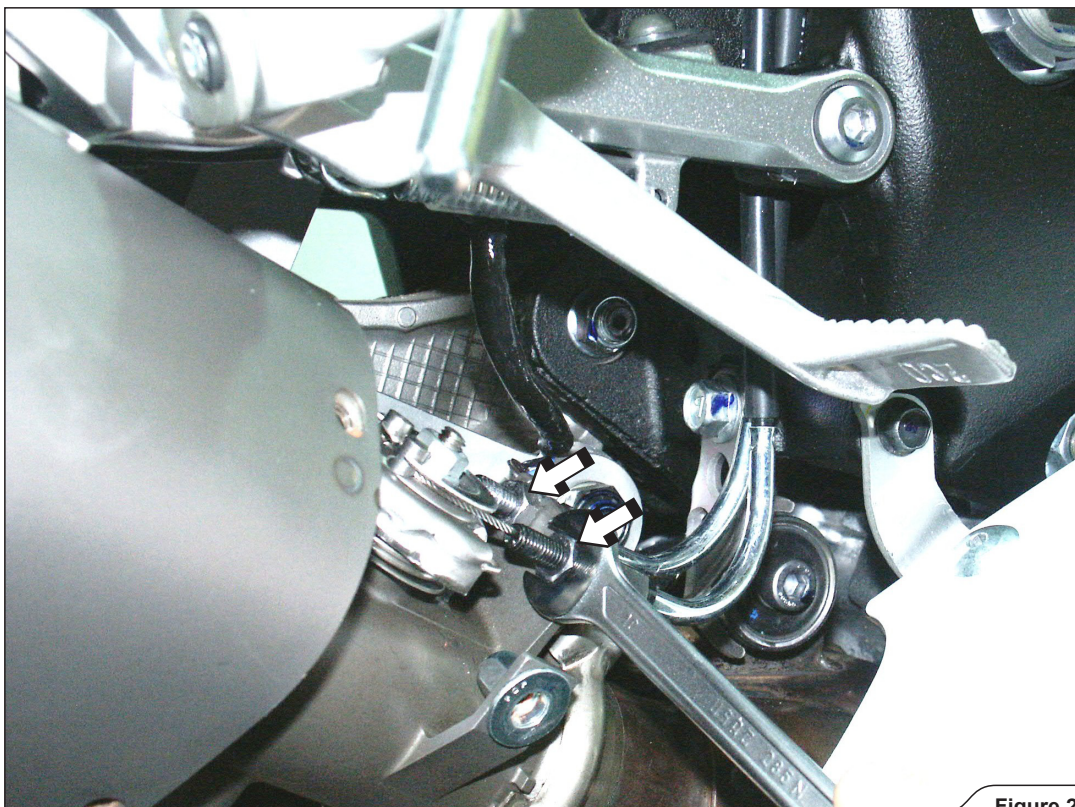

Figure 2
3. Unscrew the marked nuts and remove the exhaust valve cables off the cable bracket (**Figure 2**).